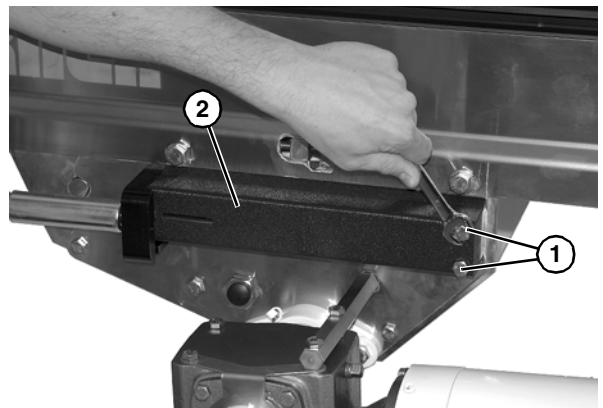

Figure 72
- Remove two bolts (Figure 72, item 1) from cover (Figure 72, item 2).